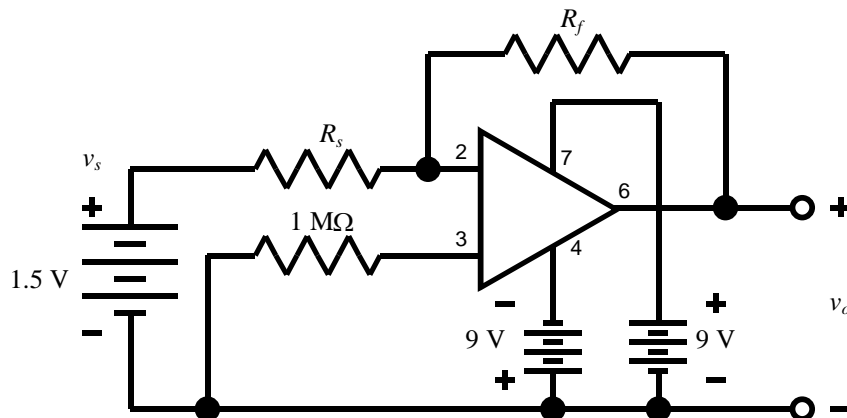

Figure P1-1 Inverting amplifier.
Construct the circuit of figure P1-1.
1.a (20 points) Use the circuit of Figure P1-1 to fill out Table P1-1.
Then insert each combination of resistor values in the circuit of Figure P1-1 and measure the battery (source) voltage, v_s , and the output voltage v_o . Compute measured gain as output over input, or v_o/v_s .
1. b (5 points) Use the resistances from the first line of Table P1-1 in the circuit of Figure P1-1. Find the Thévenin equivalent resistance seen by the output of the circuit by measuring the open circuit voltage, and then measuring the output voltage with a resistance across the output. Do NOT short circuit the output. Use a minimum of 1 k Ω resistance. Compute the maximum possible value of the Thévenin equivalent resistance considering meter accuracy. Compare with the 1.5V battery Thévenin equivalent found in Laboratory 2. Which is a better voltage source?
1. c (5 points) Use the resistances from the first line of Table P1-1 in the circuit of Figure P1-1. Find the Thévenin equivalent resistance seen by the input to the op amp circuit (i.e. the 1.5 V battery) for each resistance value. Measure the voltage and current at the input. Then add a 1 k Ω resistor in series with the battery and again measure voltage and current at the input. Use this data to find the Thévenin equivalent. Calculate the nominal Thévenin equivalent input resistance, assuming an ideal op amp, and compare to your measured value.